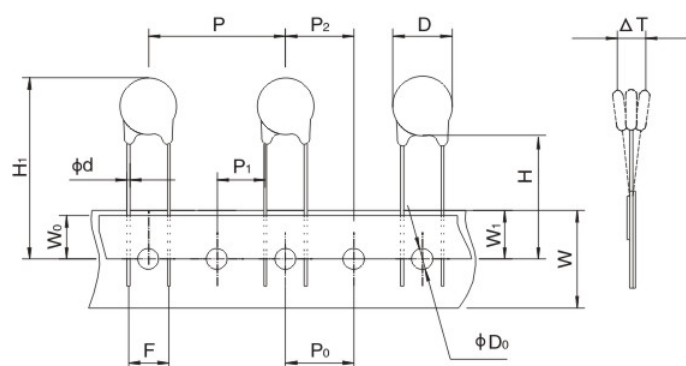

图2
3.3.2 When a line current of equipment is higher than the recommended rating of the fuse in table 2, the location of the fuse shall be arranged according to Fig 2.